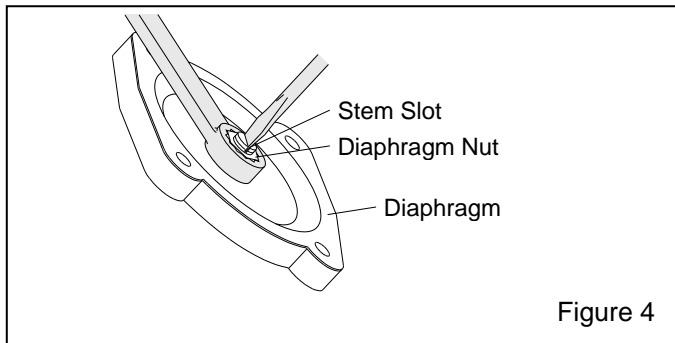

Figure 4
4.2.2 Refer to Figure 4 and place a wrench over the diaphragm retaining nut, insert a flat-tip screwdriver in the stem slot to prevent the stem from turning, then loosen and remove the nut.